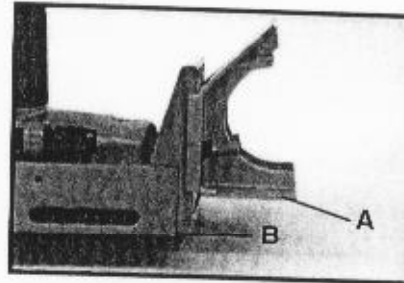

Fig. 5
3. Position fence so that bottom surface (A) Fig. 5, is at a distance of $\frac{3}{8}$ " + ($\frac{1}{2}$ the material thickness) above the bottom of the machine base (B) Fig. 5. Tighten the two retaining screws.